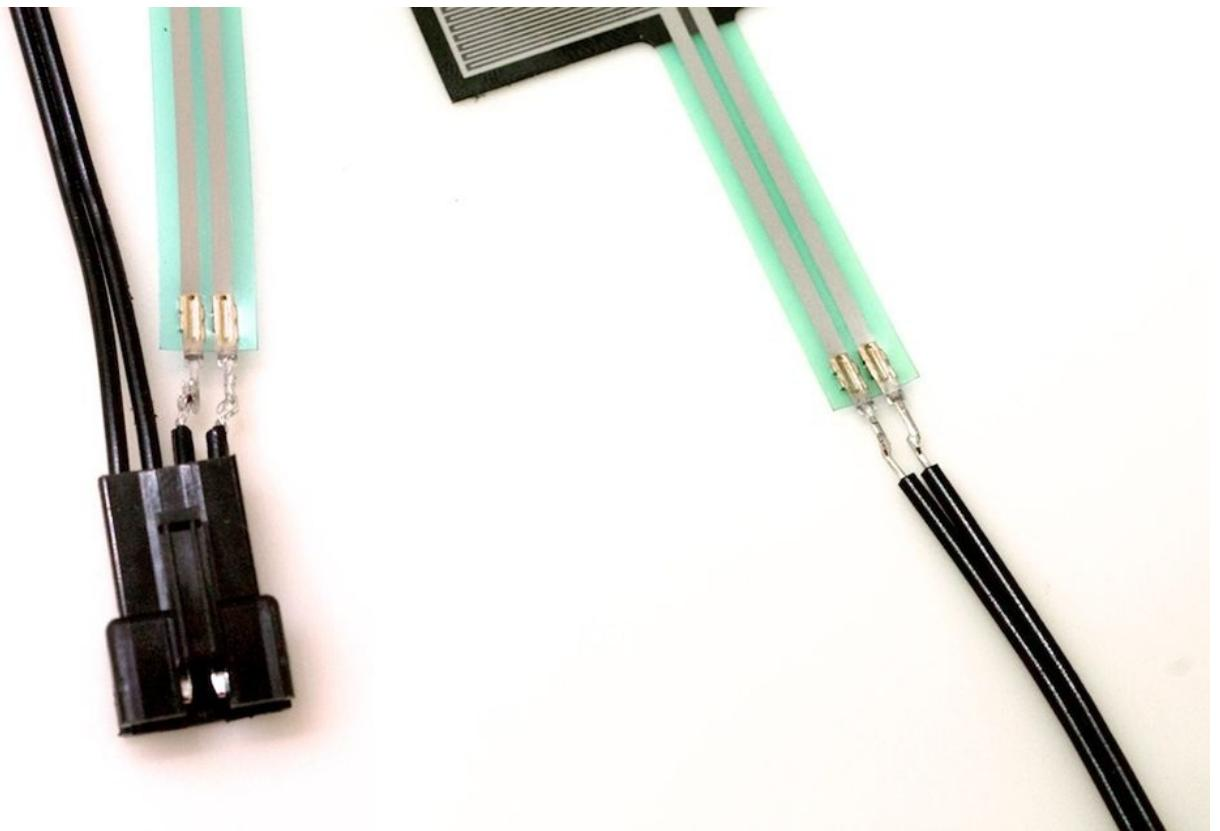
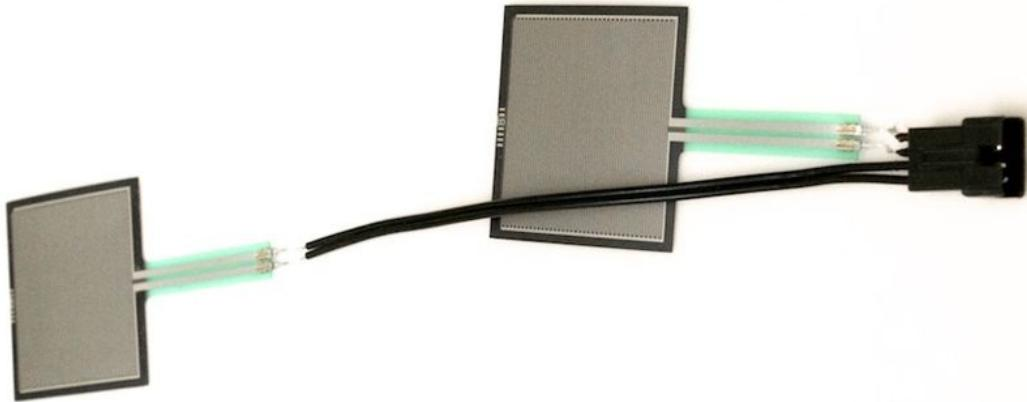

Figure 14-6. How each pair of wires should look
Figure 14-7. The final outcome
2. Solder the terminals of a sensor to one pair of wires (Figure 14-6). Then repeat for the other sensor (Figure 14-7).